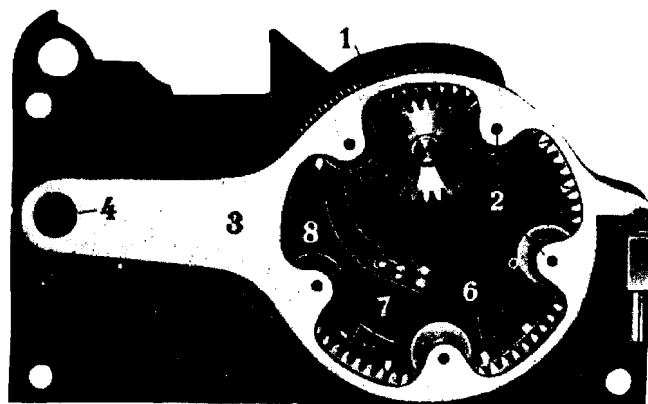
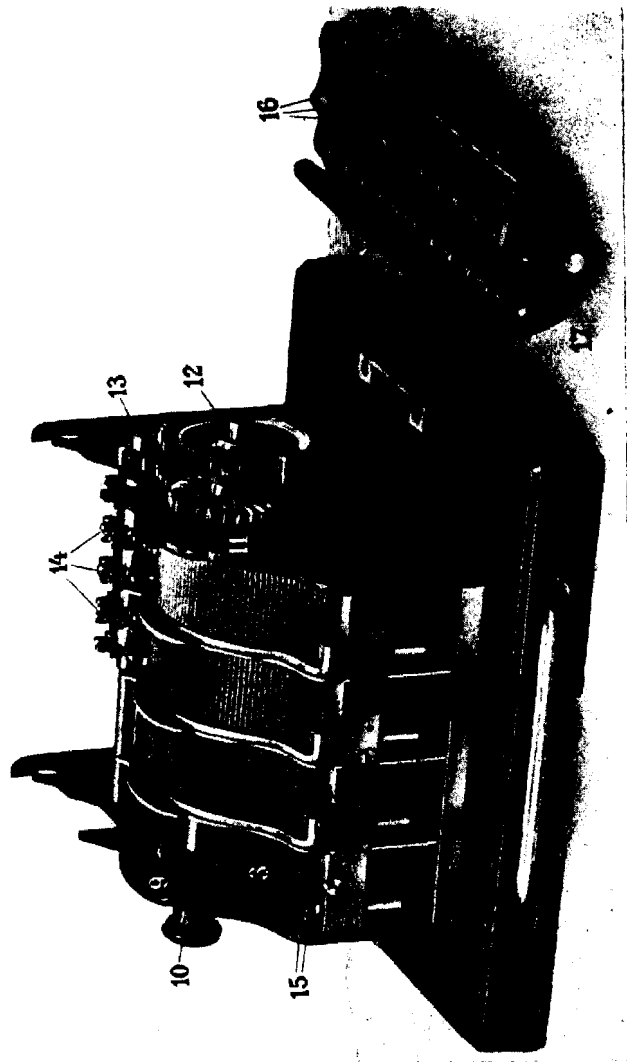

Figure 192
Figure 193/194
What the size of the four numbers 1, 3, 4, and 5 signifies is superfluous for the practical use of the machine in that one must know the number mechanism with the fingers without thinking and without looking at each number. The four “keys,” which are each worked by one finger on the left hand, are corrugated cylindrical rollers that one’s finger must lightly press and turn by pulling gently as far as the mechanism allows. Each of the rollers (marked 1 in figure 192) has two inner gearings and, with the help of five small rollers (2), is positioned on the arm (3), which can swing around the pivot point (4). The arm is moved by gentle pressure from the finger until it strikes against stop (5). With this action, the gearing belonging to (1) is meshed into wheel (9), and at the same time the locking teeth (6) are taken out of the stationary block (7), which had, until this time, prevented the roller from turning. The small wheel (9) is carried along with the rotation of the roller that is now possible. Each rotation is restricted by the stop lever (8); that is, whenever the next locking point position (6) is positioned exactly under block (7). Only in this position can the arm (3) return to its rest position, and roller (1) can only be turned exactly within that arch between the two locking points (6). The small wheel (9) (visible in figure 193 with roller (1) removed), which has been carried along with the rotation, now drives cog (11) positioned on the same axle (10), which by means of (12) carries the movement further over to wheels (13) and (14).